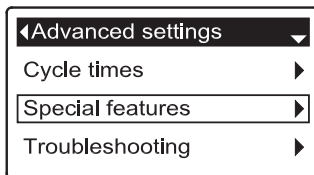

FIG. 73
3. Press the SELECT (O) button to display the Advanced settings menu (See Figure 73).